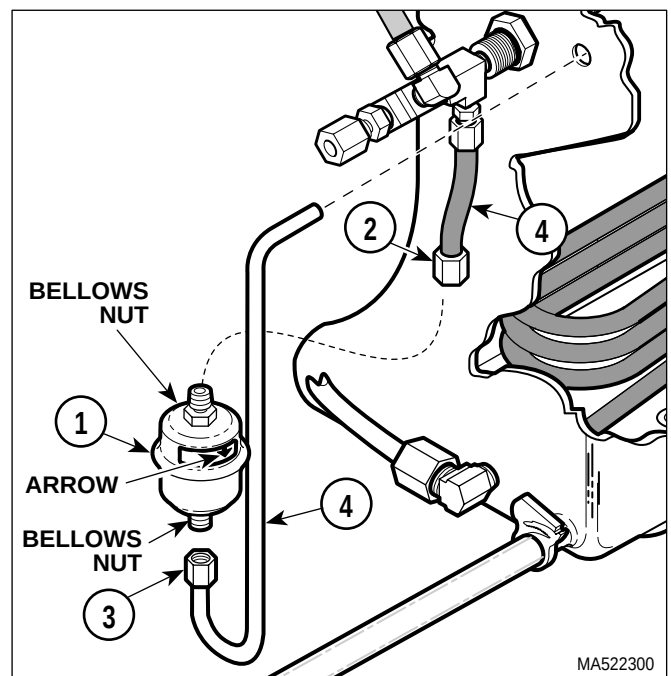

Figure 4-13. Bellows Assembly
- (2) Using a wrench on bellows nuts, hold bellows assembly (1, Figure 4-13) stationary; then loosen and disconnect compression nuts (2 and 3).
- (3) Remove bellows assembly (1) from tubes (4).